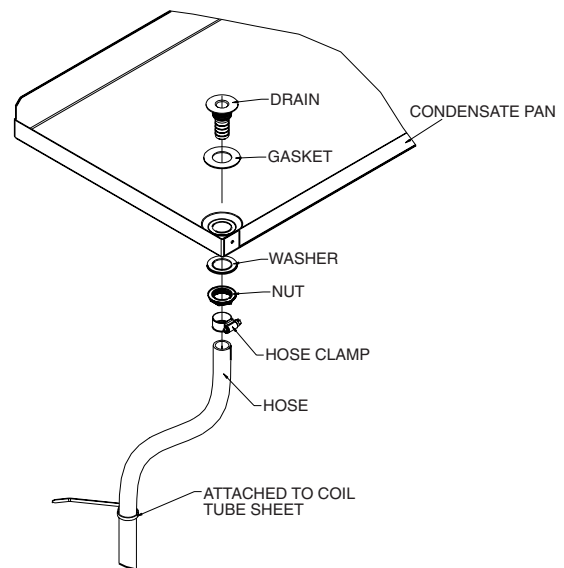

Fig. 49 — Install Drain Fittings
14. Install the drain fittings into the pan. Route and secure the hoses as shown in Fig. 49.